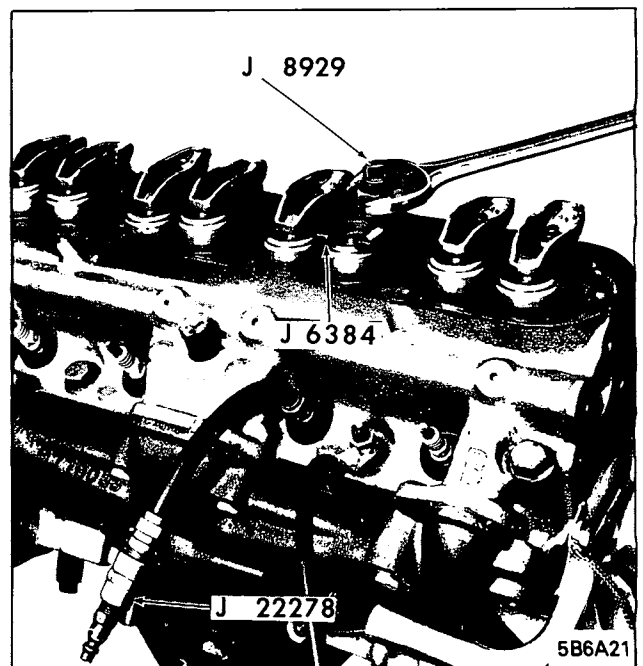

Figure 6A-121 - Compressing Valve Spring
5. After removing rocker arm, thread valve spring compressor stud J-8929-1 on rocker arm stud and compress valve spring, using compressor J-6384-1 and nut J-8929-2. See Figure 6A-121. Remove valve spring retainer cup locks and then remove valve spring compressor, valve spring retainer cup shield and valve stem seal.
1. Install new part or parts, compress springs with valve spring compressor J-6384-1 and nut J-8929-2. Install valve stem seal (Figure 6A-122) and retainer cup locks. Remove spring compressor and valve holder, then test valve stem seal using suction cup end of Tool J-22330. See Figure 6A-123.